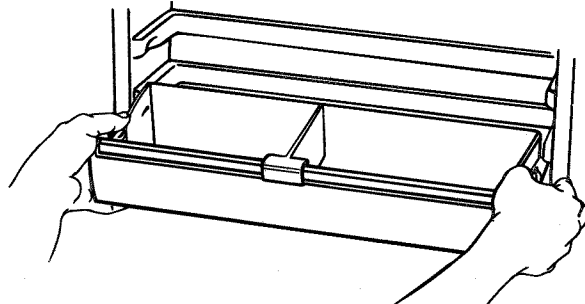

Figure 18
b. Push lock tabs toward center with your thumbs and forefingers. See Figure 18.